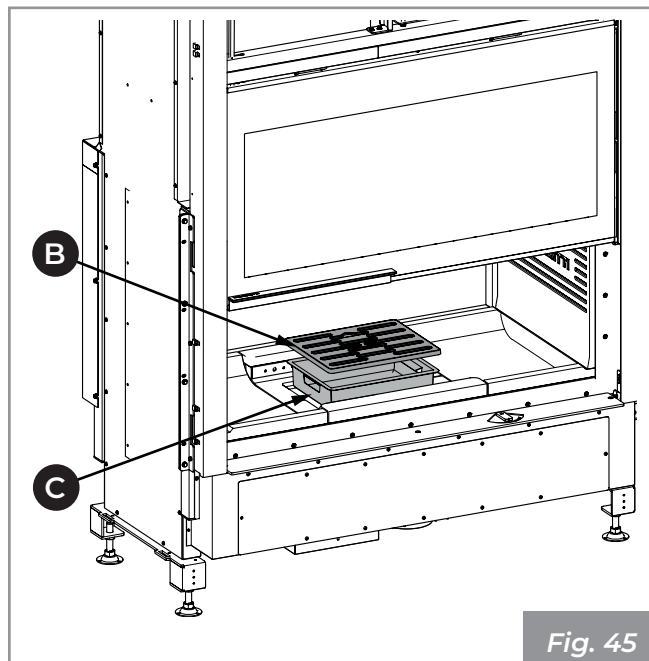

Fig. 45
- 2) Lift and extract the grate (B) and ash drawer (C) (Fig. 45).